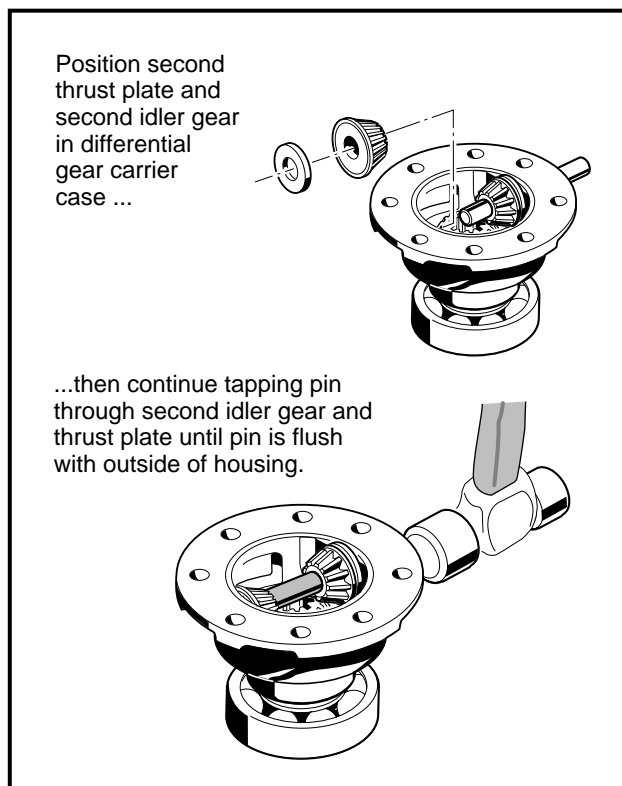

Figure 16-63 Second Idler Gear
4. Position the other thrust plate (85) and idler gear (89) (**Figure 16-5, Page 16-4**) in the carrier case. Then continue to drive the pin through them and the wall of the carrier case until the ends of the pin are flush with the sides of the carrier case (**Figure 16-63, Page 16-27**).